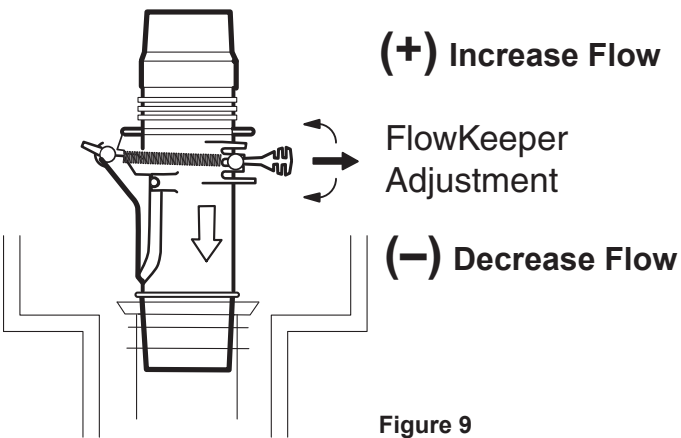

Figure 9
2. To increase or decrease flow, adjust the valves at the equipment pad OR adjust the FlowKeeper™ valve at the skimmer up or down (see Figure 9).